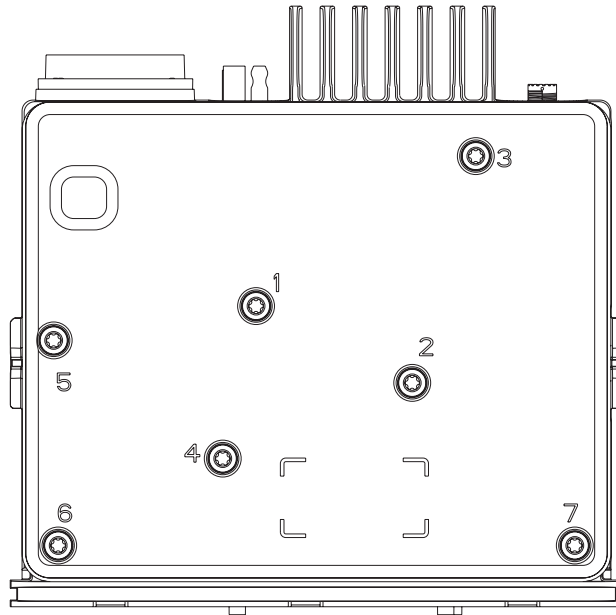

Figure 5-57 Screw Sequence to Tighten Die Cast Cover
7. Using a T20 TORX™ driver, tighten the seven screws between 2.94 N-m (26 lbs-in) in the order shown in Figure 5-57.